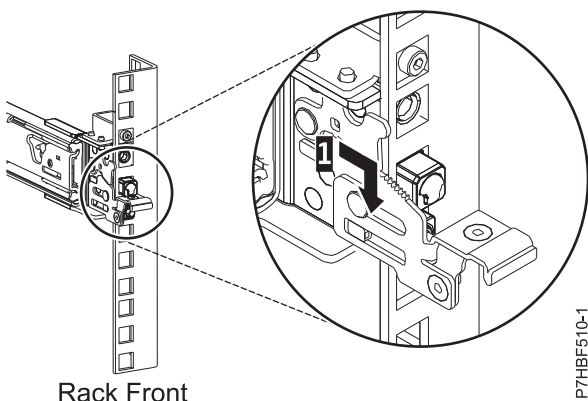

Figure 22. Pins that are seated on the front rail of the rack
6. Pull the slide rail forward and insert three pins on the front of the rail into the holes within the selected EIA unit that were previously marked. Lower the slide rail down (1) to engage the hook feature on the middle pin. For details, see Figure 22.